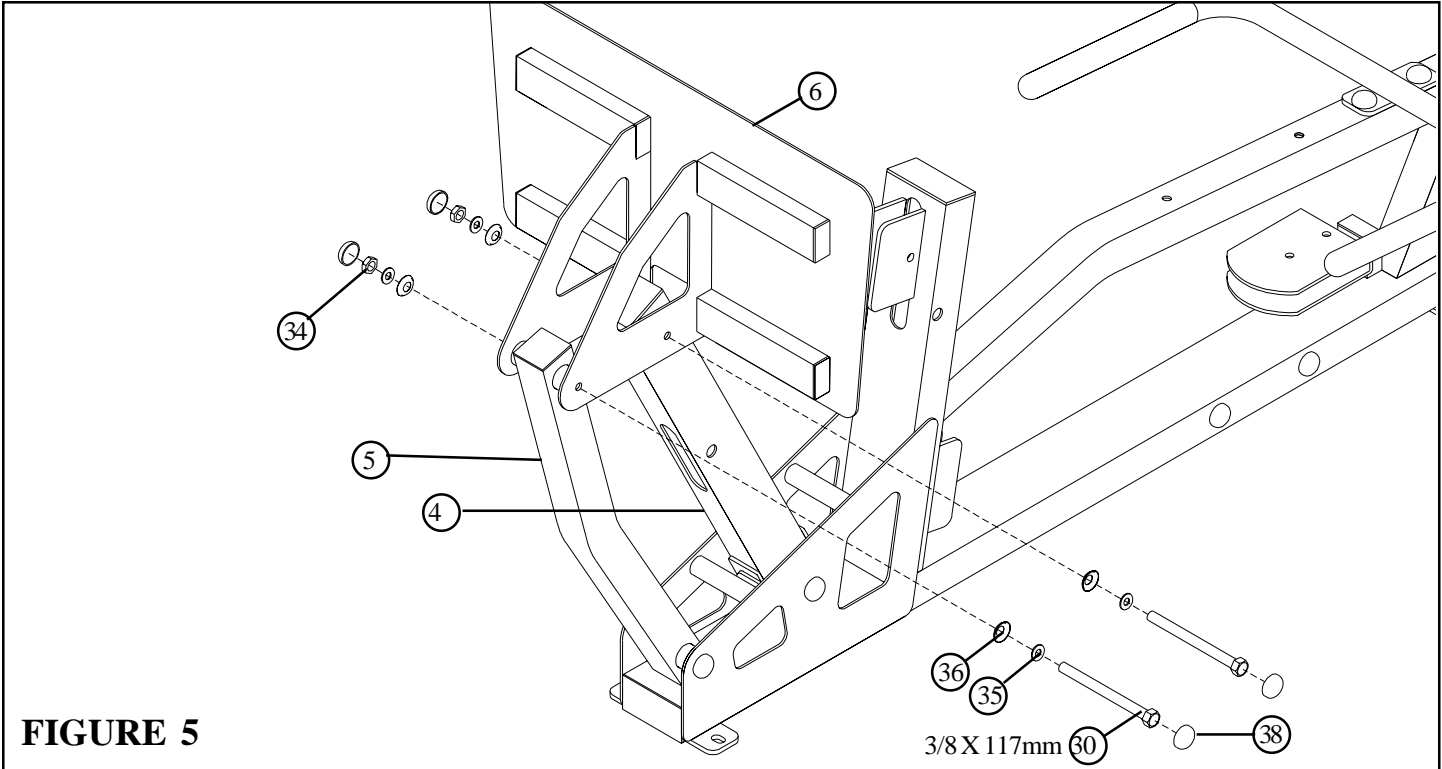

FIGURE 5
- **SECURELY** assemble the FOOT PLATE (6) to the MAIN & SECONDARY PIVOT ARMS (4 & 5) using four RH CAPS (38), two 3/8 X 117mm BOLTS (30), four 3/8" SAE WASHERS (35), four 3/8" RH WASHERS (36), and two 3/8" LOW HEIGHT LOCK NUTS (34) as shown in FIGURE 5.